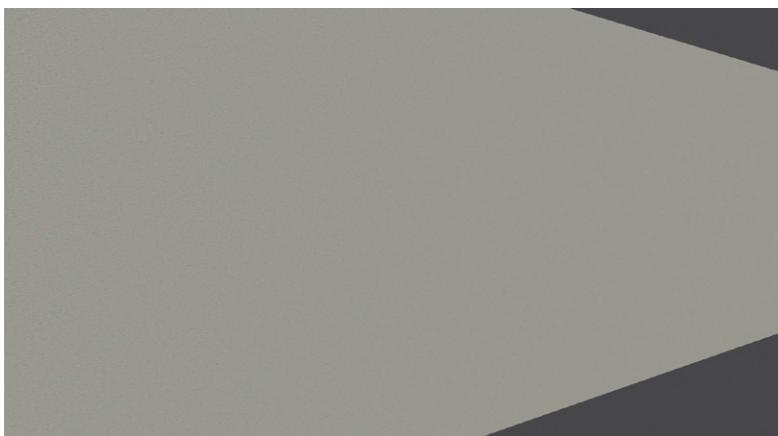

FIG B.10 Applied seamless version.
Step 10: Save. Test (Figure B.10).